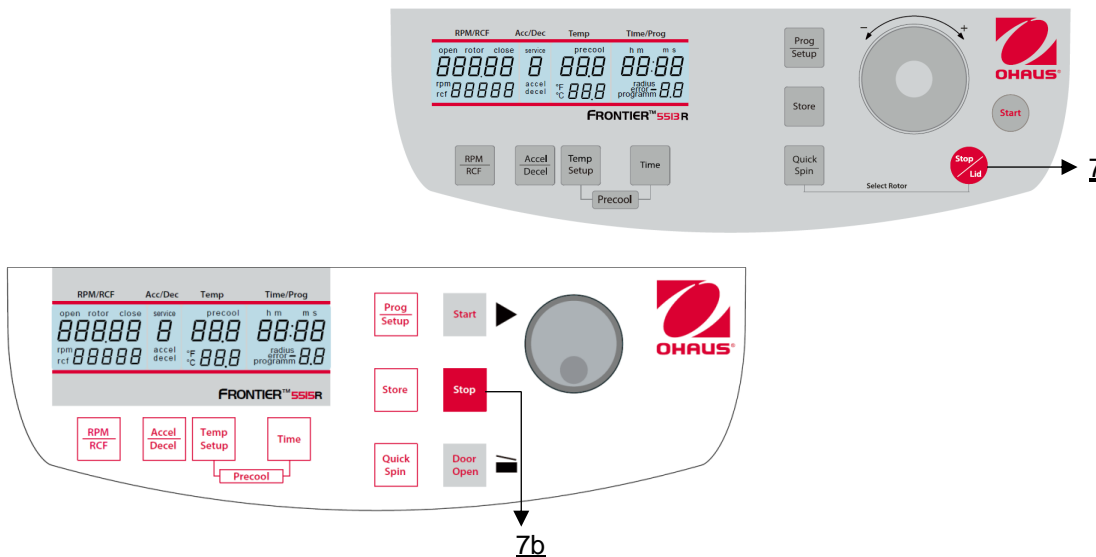

Figure 23
By the "**Stop**" (7b) or "**Stop/Lid**" key (7) (see Figure 23) you can interrupt the run at any time. After pressing the key, the centrifuge decelerates with the respective pre-selected intensity down to stand still.